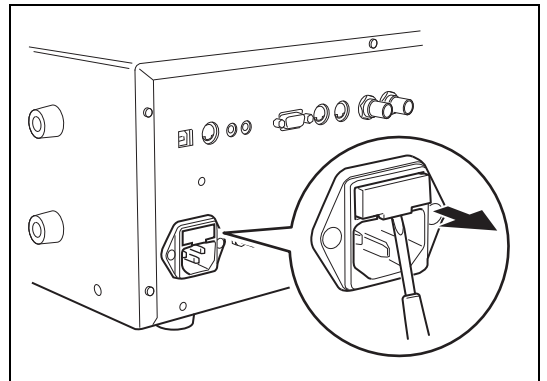

Figure 5.7
- 2 Insert a screwdriver beneath the fuse box and use it to pull out the fuse box. (Refer to Figure 5.7)**